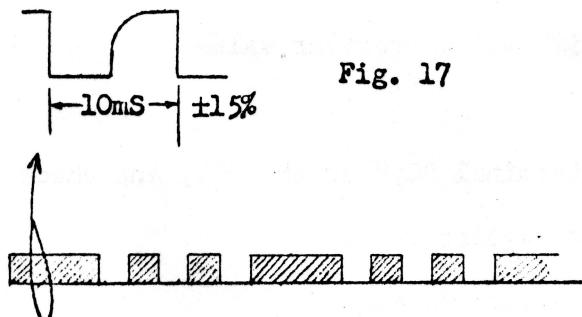

Fig. 17
a) The wave form on the collector of transistor Q310 is shown on Fig.17.